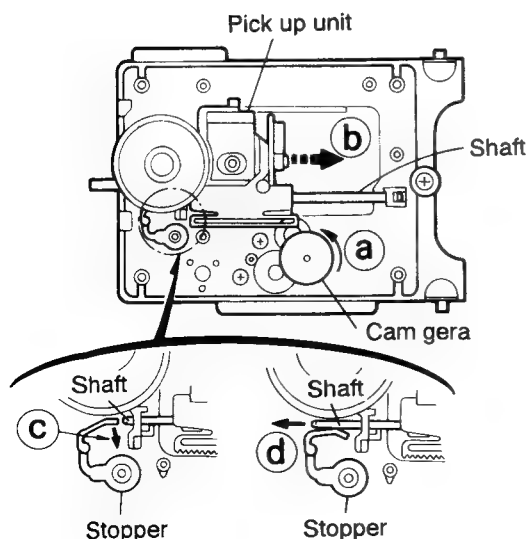

Fig. 2-19
## ■ Removing the CD pickup unit (See Fig. 2-19)
2. According to the above step, shift the CD pickup unit to the center position (Fig. 2-19).
3. While pressing the stopper retaining the shaft in the arrow direction (c), pull out the shaft in the arrow direction (d) (See Fig. 2-19).